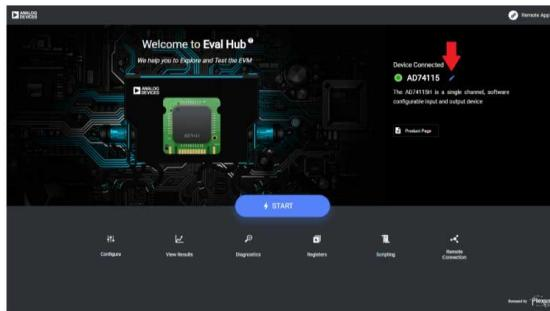

Figure 3. AD74115 Evaluation Software Start Page
4. Power up the EVAL-AD74115-ARDZ with the relevant power supplies. If not opened already, open the AD74115 evaluation software GUI. The GUI displays a green indicator to confirm that the AD74115 is connected. The **AD74115x_Eval_Software** can control either the AD74115 or AD74115H. To switch GUI functionality, click the blue pen icon and choose the desired chip to control (see Figure 3).